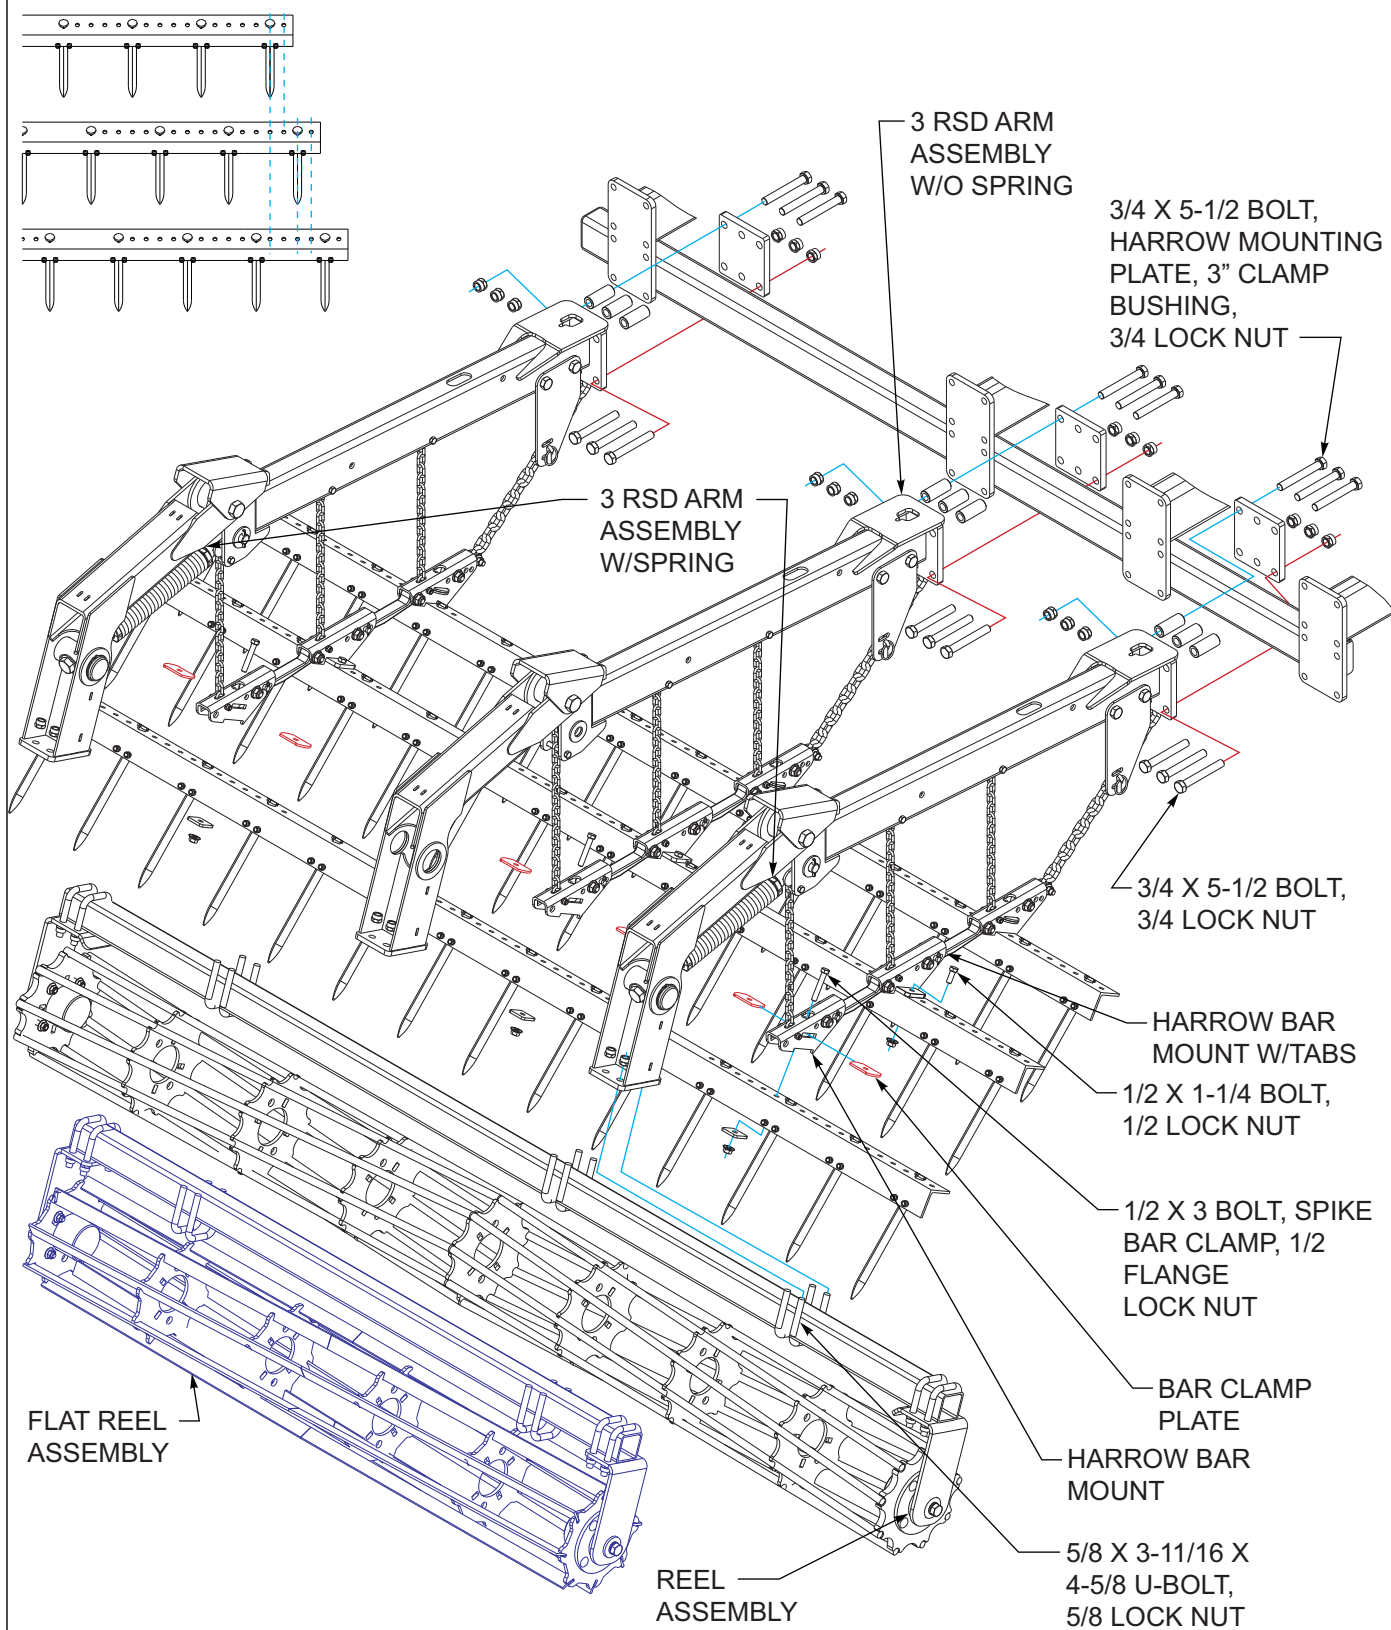

Figure 3-65: 3 Row Spike Harrow and Reel Installation
1. Attach the 3 RSD w/spring and 3 RSD w/o spring arm assemblies to the rear tube of the center and wing frames using harrow mounting plates, 3/4 x 5-1/2 bolts, clamp bushings and 3/4 lock hex nut **See Figure 3-65**.
5. Refer to Note: spike bar alignment **See Figures 3-65** for proper alignment of spike bar assemblies. Be sure they are aligned properly on both right and left side of each section.